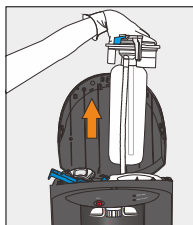

Figure 34
8. Pull SmartFlo™ Water Cartridge upwards to remove (Figure 34)